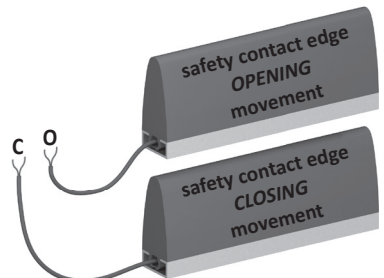

Figure 1: Connection at the coil core
6.6 Connecting the safety contact edges to the coil core SPK 54 (figure 1)